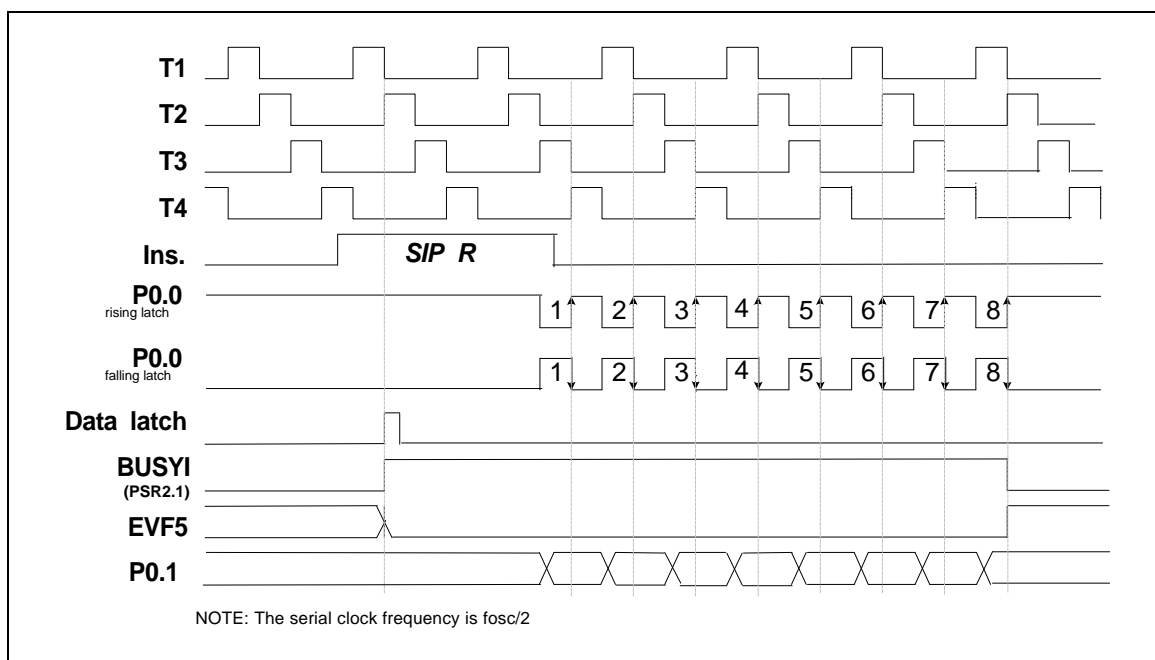

Figure 5-12 Timing of the Serial Input Function (SIP R)
- (1) **When in the first time the SIP R instruction is executed, the data will be loaded to the ACC and RAM from the serial input buffer. But this data is not meaningful, it is used to enable serial port.** There are two methods to get the serial data, one is interrupt and the other is polling. When enable the serial input, the bit 1 of port status register 2 (PSR2) will automatically be set to "1" (BUSYI = 1). Then the P0.0 pin will send out 8 clocks or accept 8 clocks from external device and the data from the P0.1 pin will be loaded to SIB buffer at the rising or falling edge of the P0.0 pin. After the 8 bits have been received, BUSYI will be reset to "0" and EVF.5 will be set to "1." At this time, if IEF.5 has been set (IEF.5 = 1), an interrupt is executed then the SIP R instruction can get the correct data from the serial input buffer (SIB), **low nibble of SIB moves to ACC register and the high nibble moves to RAM**; if HEF.5 has been set (HEF.5 = 1), the hold state is terminated. The polling method is to check the status of PSR2.1 (BUSYI) to know whether the serial input process is completed or not. If a serial input process is not completed, but the SIP R instruction is executed again, the data will be lost. The timing is shown in Figure 5-12.